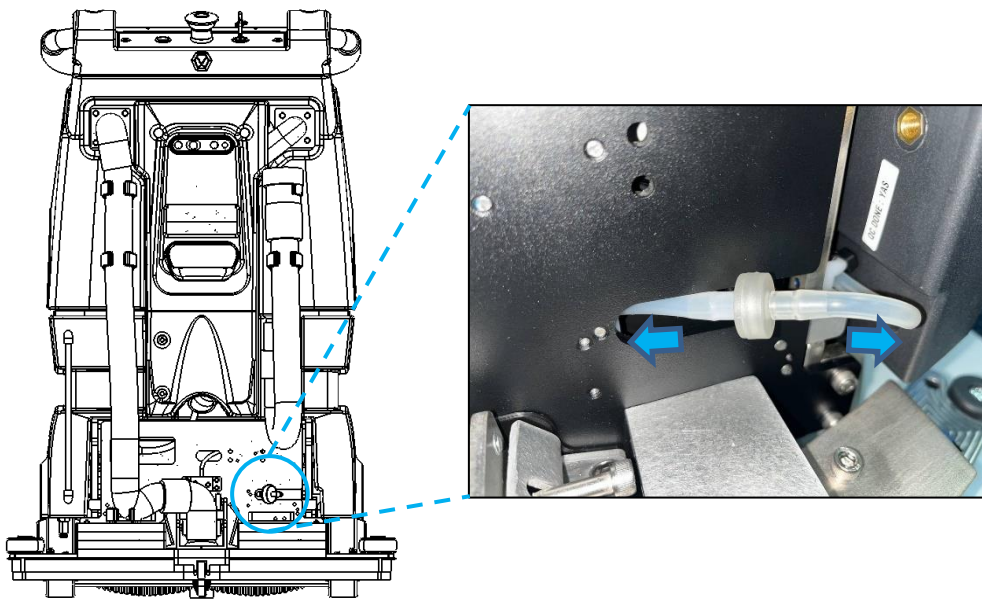

Fig. 2
2. Unplug the pipes from both end of the water filter (Fig 2).